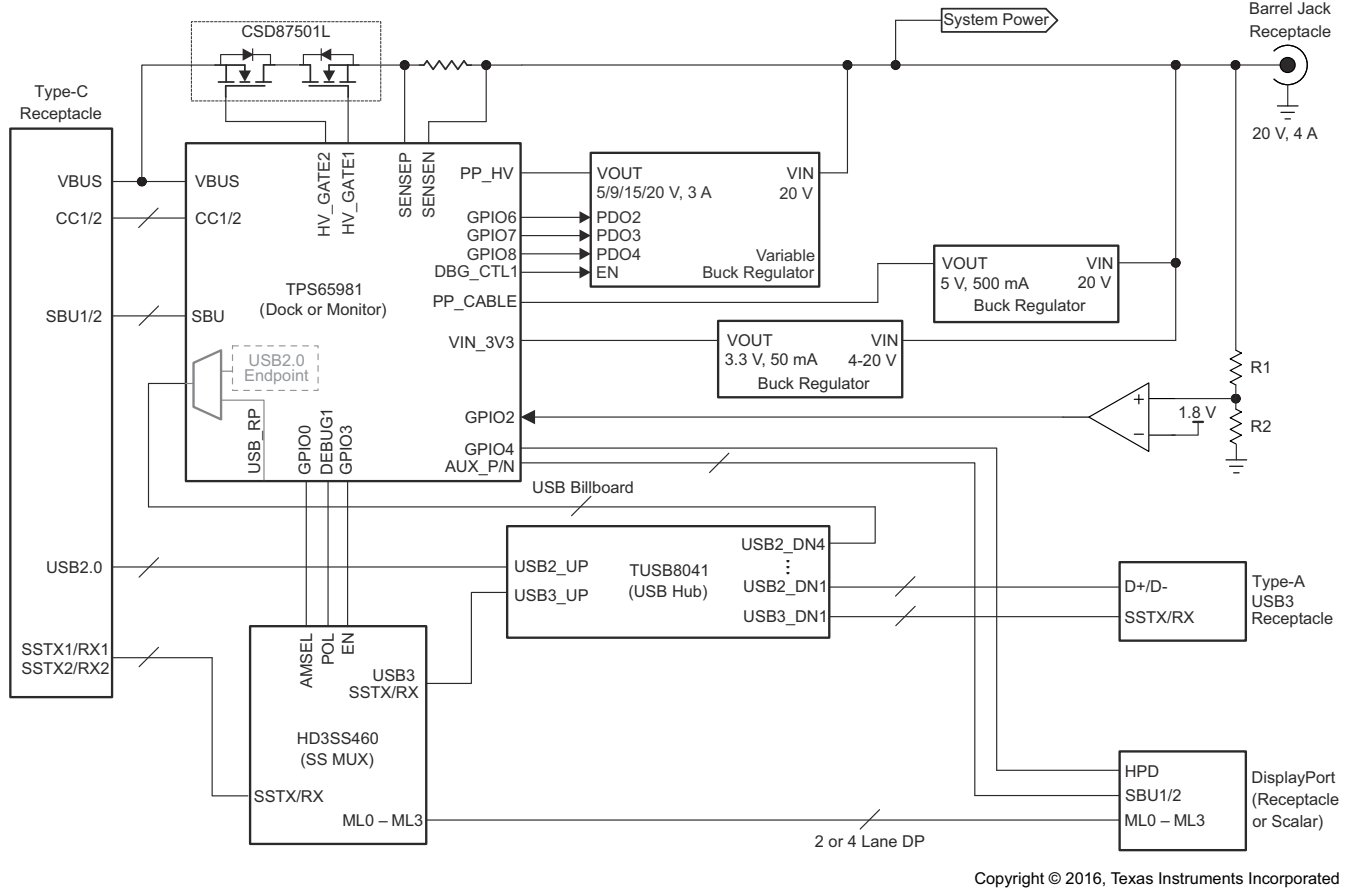
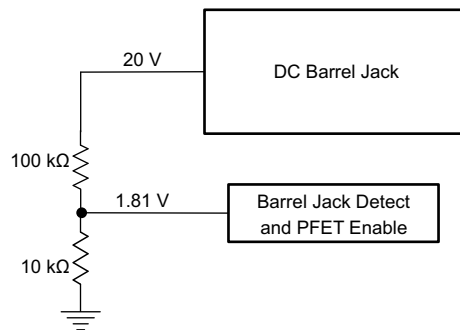
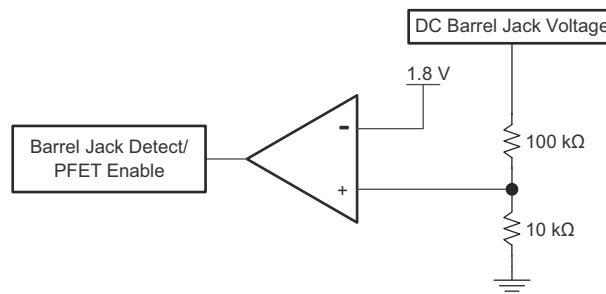
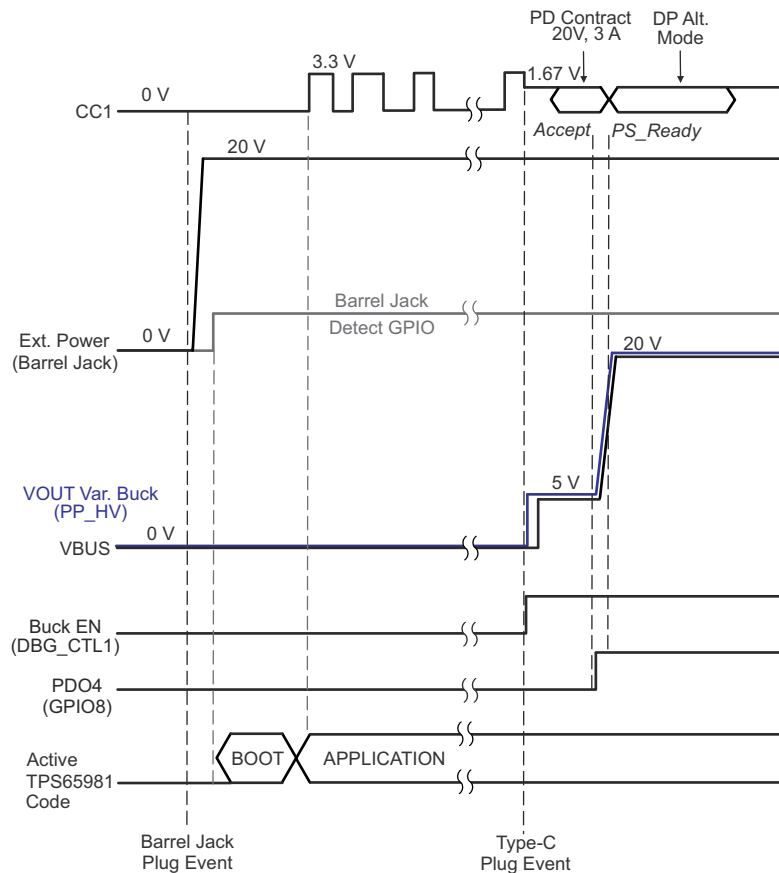

图 10-3. Type-C and PD Dock or Monitor Application
图 10-4. DC Barrel Jack Voltage Divider
图 10-5. Barrel Jack Detect Comparator
图 10-6. TPS65981 Variable Buck Regulator in Dock or Monitor Application Timing Diagram
The TPS65981 controls two separate power paths making it a flexible option for Type-C and PD dock application that simultaneously charges a USB PD DisplayPort video source (for example, a notebook computer). The dock or monitor application of the TPS65981, shown in 图 10-3, uses a GPIO to sense when a power supply is present on the system-side of the TPS65981. When external power is applied from an AC-DC power supply first, the TPS65981 shall be configured to automatically attempt to become the USB Type-C or PD power source. When a notebook computer or other USB PD source is connected first and the AC-DC supply is not present, the dock or monitor supports booting from VBUS in No Battery Mode, provides power to the SPI Flash to load application code, and can optionally power the entire system by enabling the PP_EXT path as a sink. If the AC-DC power supply is applied at a later time, the TPS65981 will detect the new power supply, automatically enable one of more Source PDOs, and initiate a Power Role Swap PD message to offer power to the system at the far-end of the Type-C cable. Refer to 图 10-6 for a timing diagram of the GPIO-controlled variable buck regulator voltage output at PP_HV and the voltage at VBUS during a Type-C connection and throughout an initial USB PD power negotiation where the dock or monitor is the power source. The video receptacle can be DisplayPort, HDMI, or VGA although only DisplayPort is shown in 图 10-3. The dock or monitor application uses a Type-C receptacle and an HD3SS460 SuperSpeed multiplexer that is controlled by the TPS65981. The CC1/2 pins of the TPS65981 will detect cable orientation and automatically configure the HD3SS460 SuperSpeed signal pairs for 2-lanes of USB3 data and 2-lanes of DisplayPort video or 4-lanes of DisplayPort video depending on the Alternate Mode configured by the downstream-facing port (DFP).
The system is design to either operate bus-powered over Type-C/PD or line-powered from the DC barrel jack. The TPS65981 detects that the DC barrel jack is connected to GPIO. In the simplest form, a voltage divider could be set to the GPIO I/O level when the DC Barrel jack voltage is present, as shown in 图 10-4. A comparator circuit is recommend and used in this design for design robustness, as shown in 图 10-5. 图 10-3 shows the barrel jack detection circuitry used in the dock or monitor application connected to GPIO2 configured as an input.
The Type-C port in this design supports the 4 standard discrete source voltages in USB PD (5 V, 9 V, 15 V, and 20 V) by adding the LM3489 DC-DC hysteretic PFET buck controller with GPIOs controlled by the TPS65981 that enables the LM3489 and modifies the output voltage that is supplied to VBUS through the internal PP_HV power switch. In Figure 10-3, the enabled (EN) pin of the LM3489 is controlled by DBG_CTL1 which is mapped to the Plug Event GPIO so that whenever a Type-C plug occurs the voltage regulator will generate the 5-V default output voltage for sourcing Type-C and PDO1 power. The default voltage is set by a resistor divider (R_{FB1} and R_{FB2}) with the center tap connected to the feedback pin (FB) of the LM3489. The TPS65981 modifies the output voltage when a high voltage PD contract is negotiated by forcing a GPIO output high and switching in a third resistor in parallel with R_{FB2} in the feedback circuit. In Figure 10-3, GPIO6 indicates a 9-V PD contract (PDO2), GPIO7 indicates a 15-V contract (PDO3), and GPIO8 indicates a 20-V contract (PDO4). The LM3489 was selected because the architecture allows 100% duty-cycle operation, where the only additional power loss in the system is from the $R_{DS,ON}$ of the PFET used in the regulator circuit.